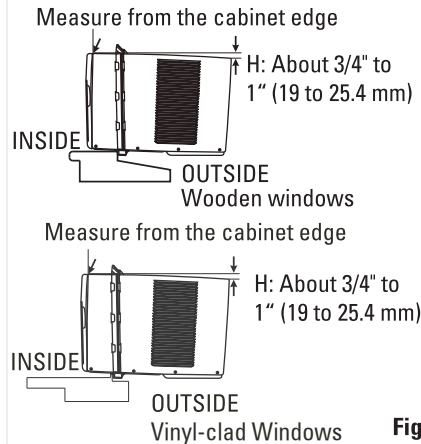

Fig. 5
A. Keep a firm grip on the air conditioner, and carefully place the unit into the window opening so the bottom of the air conditioner frame is against the window sill (Fig. 5). Carefully close the window behind the top rail of the unit.